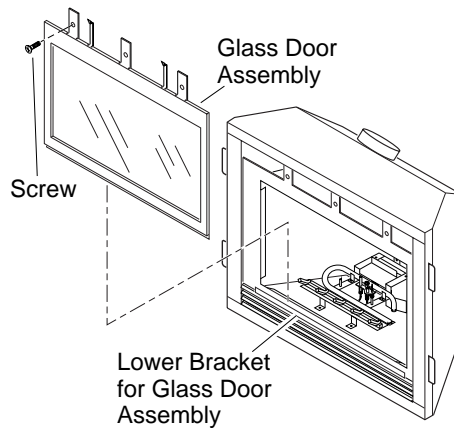

Figure 40 - Removing/Replacing Glass Door
3. Grasp door by both sides and ease it upward off of the lower bracket (see Figure 40).